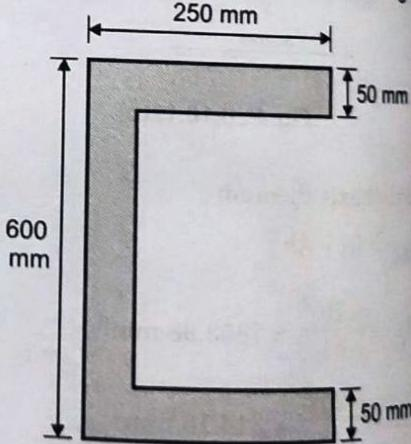

Fig. Q. 6
- Q. 6** Calculate the moment of inertia about the centroidal x and y-axes for the section shown in Fig. Q. 6.